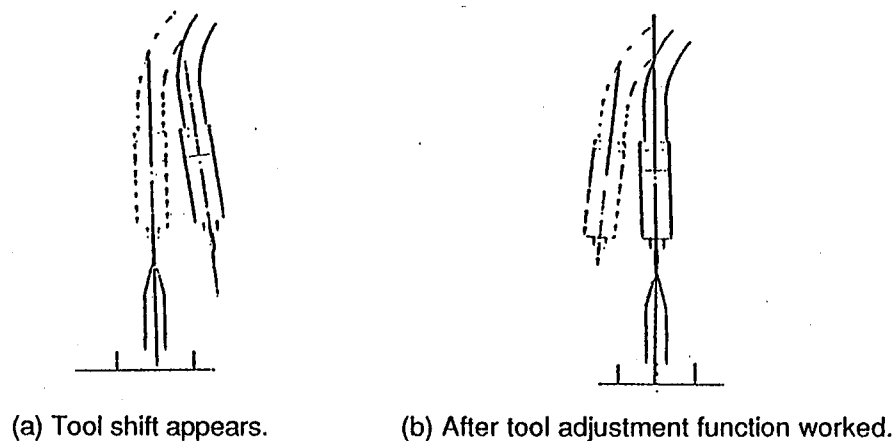

Fig. 1 Tool adjustment principle
See the above Fig. 1 (a). In case a torch is shifted from the position drawn by a dotted line to the position drawn by a solid line, the torch position is adjusted by means of the teaching operation. See the above Fig. 1 (b).
- ① Make the check points by means of putting a mark or attaching a check jig on a robot work bench.
- ② Create the check program in which the wire tip aims at the check point. At that time, the condition of the torch shall be the same as that of the work program. And also the tool No. used at that time shall be the same as that used in the work program. (See Fig. 1.)